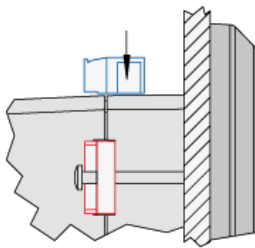

Fig. 17: Reattach terminals
7. Reattach the wire connection terminal strip (Fig. 17) and secure them with the side screws.